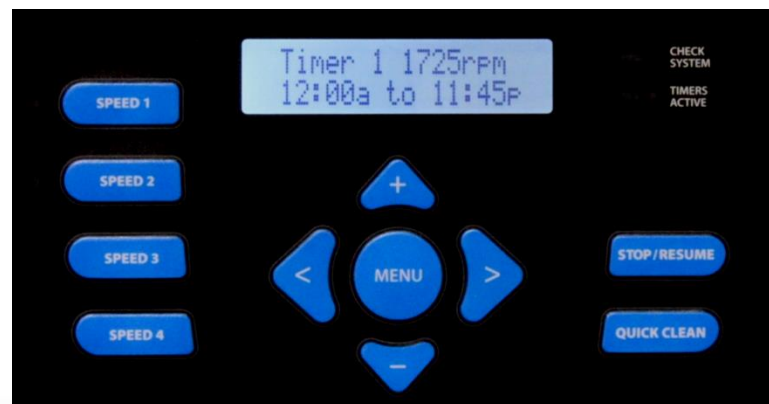
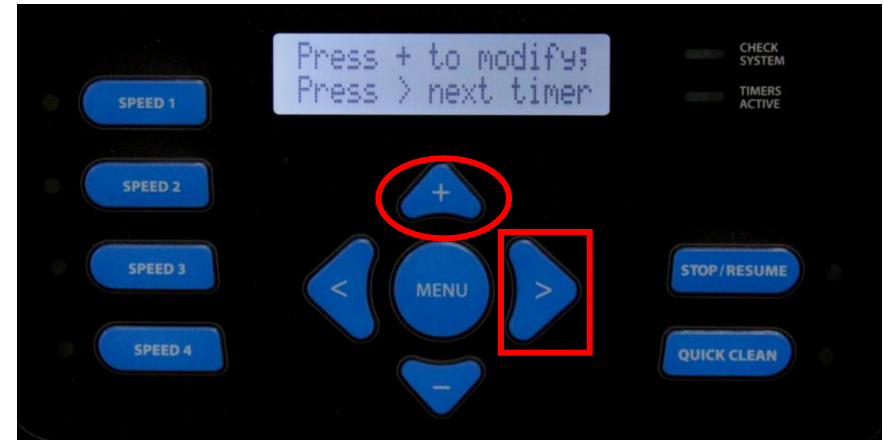

Figure 43
Figure 44
2. Timer 1 will be factory set to 1725 rpm (50%), 7 day operation from 12 am to 11:45 pm (fig 43). This is used to run the pump if the data link fails on control connected pumps. Timer 1 can be changed as needed. Timer 1 can also be set to 0 rpm when relay controlled.
3. This screen (fig 44) will alternate with fig 43 on the previous page. This screen tells you to use the  button to modify the timer setting or the button  to go to the next timer.